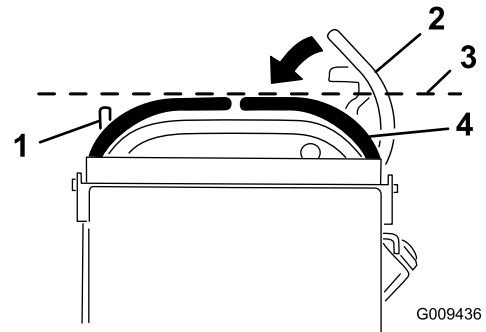

Figure 41
2. Push the motion-control levers down out of the NEUTRAL-LOCK position (Figure 41).
3. Check if the right motion-control lever aligns horizontally with the left motion-control lever (Figure 41).